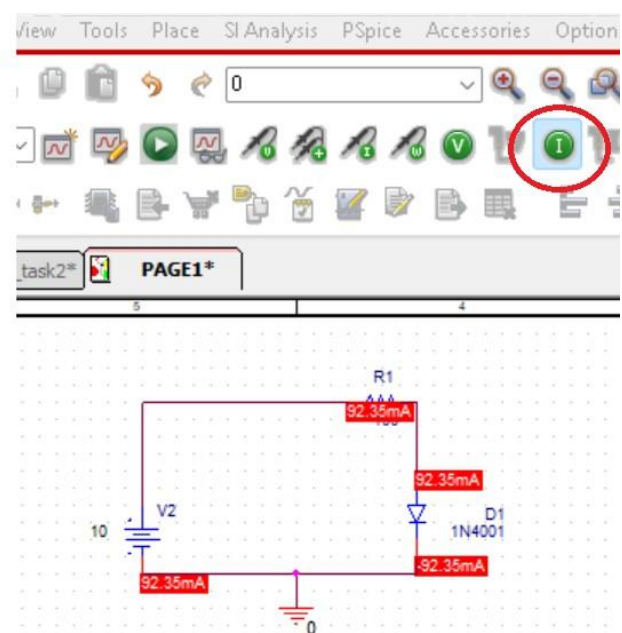

Figure 1.8b: Current value of the branches
circuit diagram, it is necessary to specify which parameter you want to have displayed. Values of current for the circuit under observation have been displayed on the circuit diagram, Refer Figure 1.8b and observe that the option of **current** has been selected.
16. Now, place a current marker to measure diode current entering the anode terminal, refer figure 1.8b. Run the simulation, refer Figure 1.10. A plot for anode current will be displayed. By default, the x-axis variable of sweep analysis simulation is the sweep variable i.e., source voltage. But *VI* characteristic curve is plot of **diode current** as a function of **anode-to-cathode voltage**. To change x-axis variable, go to *Plot > Axis Settings*. In X-Axis tab, select *Axis Variable*. The trace for anode to cathode voltage should be added in Trace Expression. If the diode model name is D1, under Simulation Output Variables the anode voltage expression will be $V(D1:1)$ or $V(D1:AN)$. It's important to understand the trace expressions. The first alphabet is measurement (V-voltage, I-current), then in brackets the component name is followed by its terminal (D1-diode model name in our schematic, and terminal 1 or AN-anode is specified with it after colon). The anode to cathode voltage expression can be added as: $V(D1:AN) - V(D1:CAT)$.